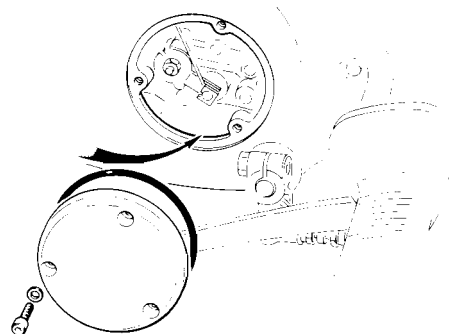

fig 33 Inspecting gearbox oil level
- 2 Remove the left side gearbox cover plate (3 screws) (See fig 33)